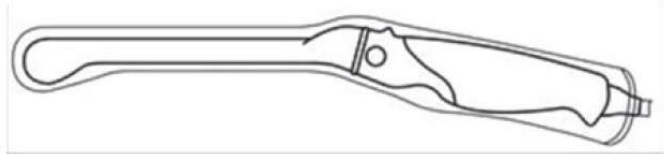

Figure 12-21. Probe sheath application
2. Place the gel-filled probe sheath on the transducer face and bring it up the probe body so that the adjustment knob of the probe is completely covered with the probe sheath as shown in Figure 12-21.